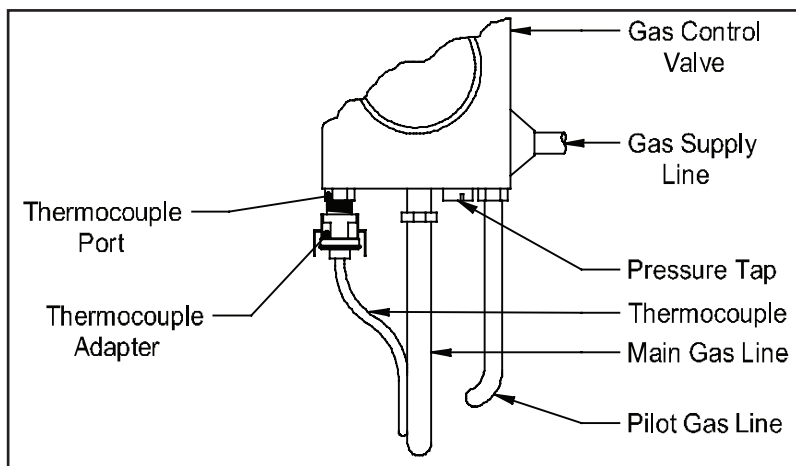

Figure 1
1. Remove thermocouple from gas control valve. (See Figure 1)